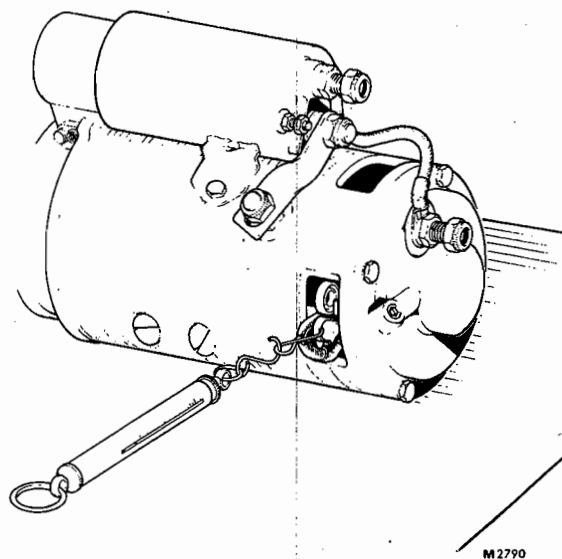

FIG. 8. CHECKING BRUSH SPRING TENSION
8. Install the brushes in their respective holders. Replacement brushes, which should be fitted in sets of eight, must be bedded to the commutator prior to use. Ensure brushes are free to move in their holders and also that flexible leads are clear of any obstruction likely to impede movement. Brush spring pressure, 1.42 – 1.68 kg (50 – 59 oz) may be verified by means of a spring balance – Fig. 8.